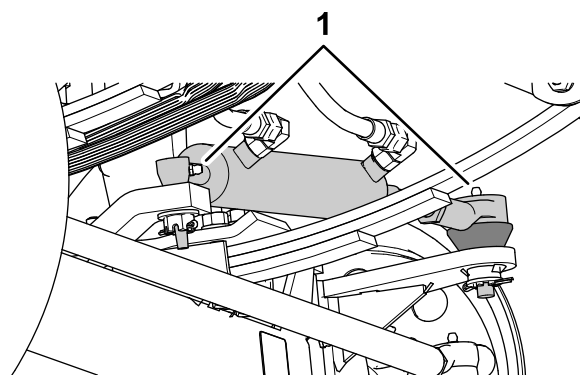
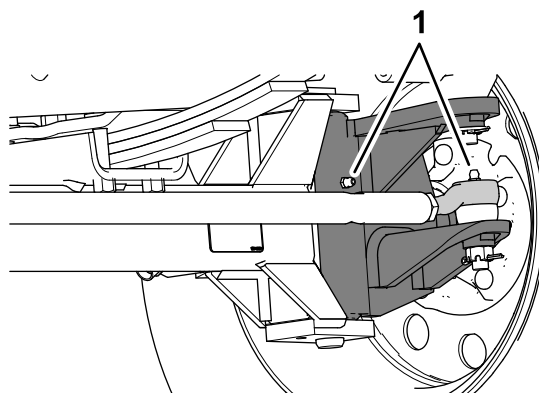

Figure 59
Figure 60
1. Wipe the grease fittings clean (Figure 59 and Figure 60).
2. Pump grease into the grease fittings (Figure 59 and Figure 60).
Note: The grease fittings positions are illustrated in Figure 59.